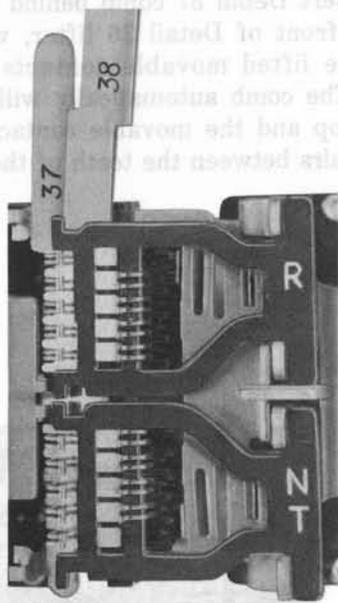

Fig. 8—Detail 38 Comb Lifter in Place With Detail 37 Comb
3.16 With the taper of Detail 38 comb lifter facing to the right, place the groove (on the left side of Detail 38) over the right side of the protruding Detail 37 comb. Holding the comb with the left hand, slowly push the Detail 38 comb lifter down until all movable contact springs are lifted in pairs as shown in Fig. 8.